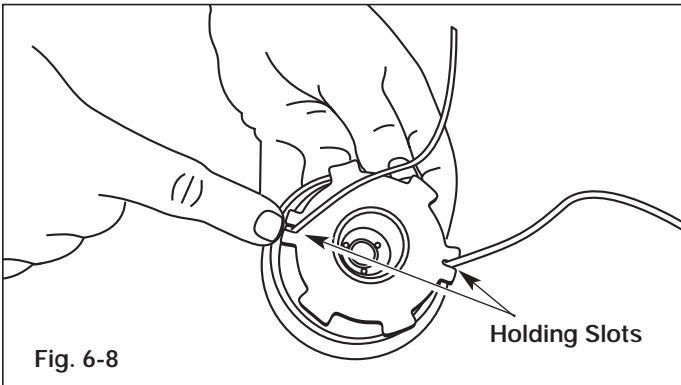

Fig. 6-8
12. Insert the ends of the line into the two holding slots (Fig. 6-8).